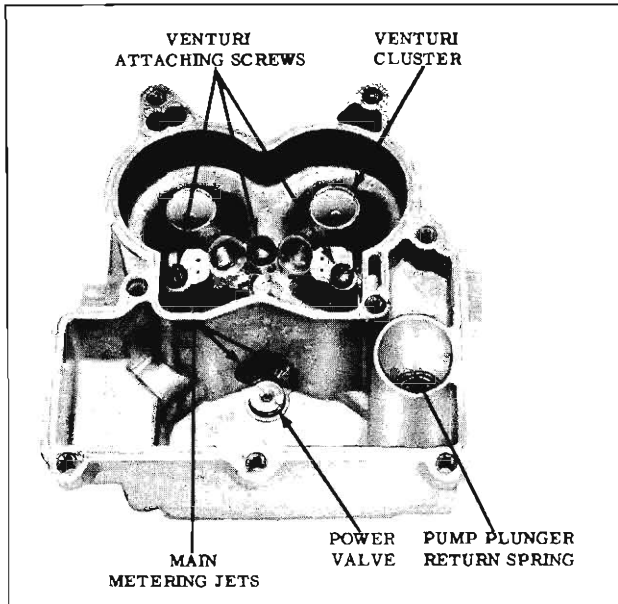

Fig. 4-135 Float Bowl Assembly
1. Remove pump plunger return spring and aluminum inlet ball from the pump well (Fig. 4-135)